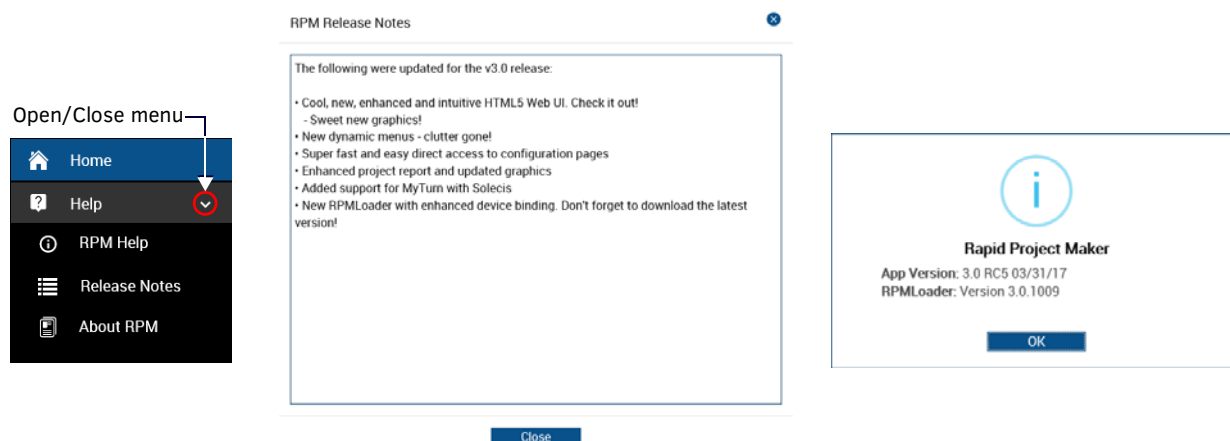

FIG. 11 RPM v3.x Help menu, sample Release Notes and About RPM window
- Click **Help** to open the Help menu which contains links to *RPM Help* (this document), *Release Notes* and the *About RPM* window: (FIG. 11):
The Folder View provides the ability to organize RPM Projects into custom folders. Also, the Folder View features context menus with options to create, rename and/or delete custom folders as well as links to the *RPM Release Notes* and *About RPM* windows (see FIG. 11 on page 13). The number of Projects contained in each folder is indicated in parenthesis after the folder name.